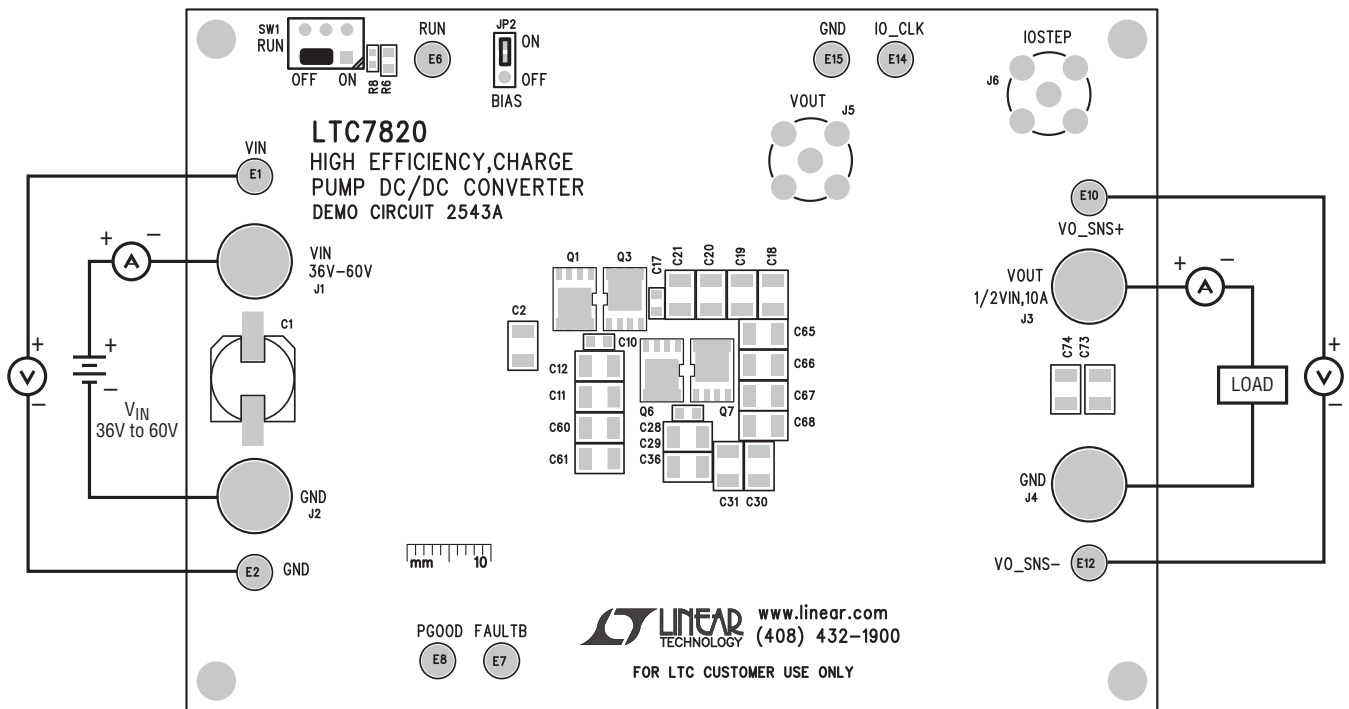

Figure 1. Proper Measurement Equipment Setup
Demonstration circuit 2543A is easy to set up to evaluate the performance of the LTC7820. Refer to Figure 1 for the proper measurement equipment setup and follow the procedure below.
2. Connect the output loads between V_{OUT} and GND (Initial load: no load). Refer to Figure 1.